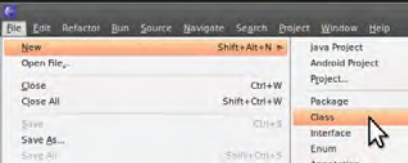

Figure 8-70. Selecting the new class
2. Give the class the name `TBlue` (the name is case-sensitive) and set the package to `fi.sulautetut.android.tbblueclient`. Leave everything else at its default. See Figures 8-70 and 8-71.